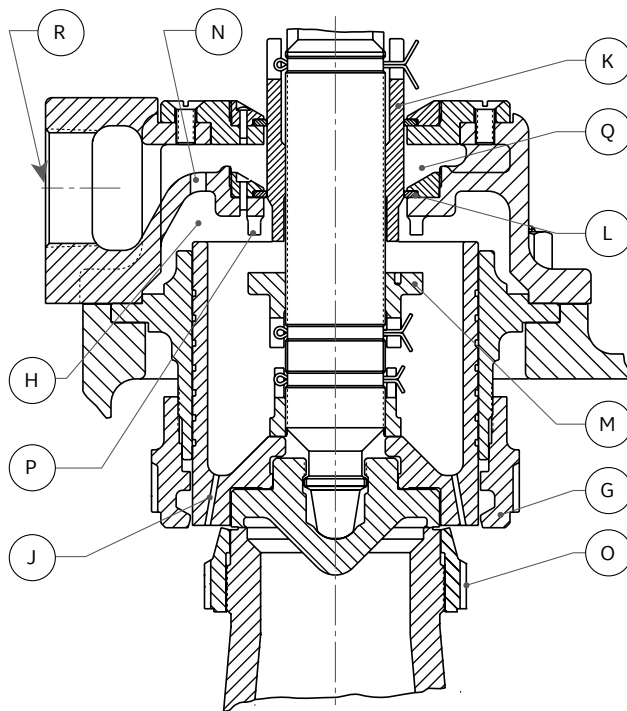
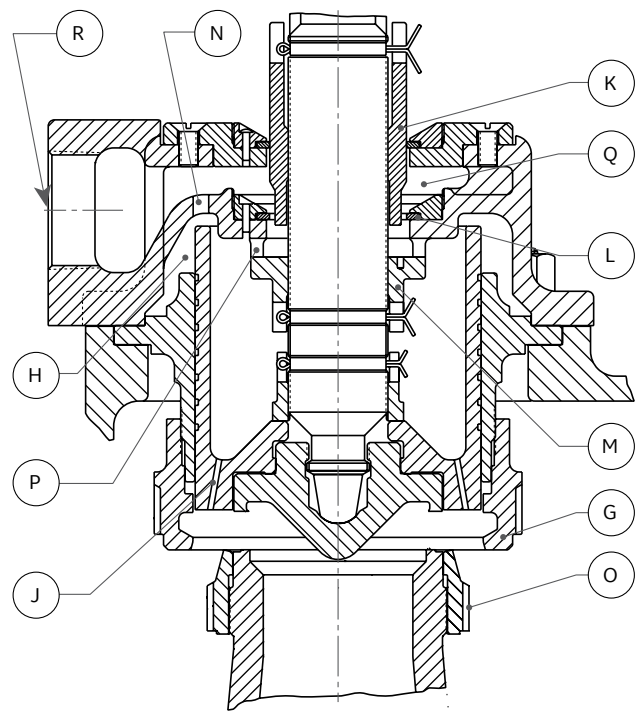

Figure 6: 100% Lift
Figure 7: Full Lift
In Figure 6, 100% lift is attained by proper location of the upper and lower adjusting rings (G) and (O), respectively. When full lift is attained, as in Figure 7, lift stop (M) rests against coverplate (P) to eliminate hunting, thus adding stability to the valve. When the valve discharges in an open position, steam is